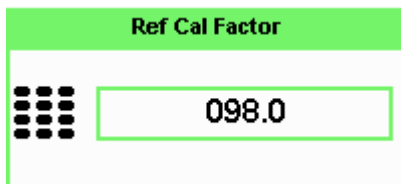

Figure 5-3 Reference Calibration Factor pop-up window
- 4 To change the settings, press the channel **REF CF** . The reference calibration factor pop up window is displayed as shown in Figure 5-3 . Use the numeric keypad to enter the required value in the **Ref Cal Factor** pop-up menu.